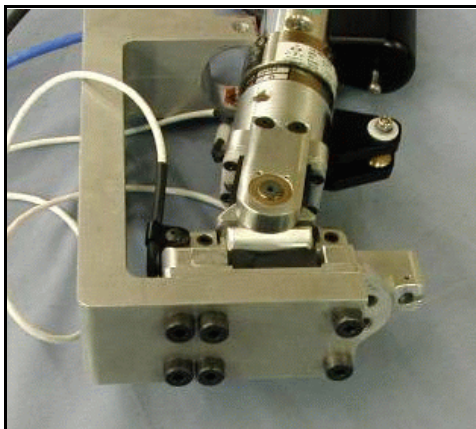

Figure 3.50 - Attachment of Cal. Fixture to Bottom of Ankle
5. Refer to drawing T2LXC000 for a complete drawing showing the proper attachment of the calibration fixture. Attach the bottom of the calibration fixture to the base of the ankle joint using the six 1/4-20 shoulder bolts provided with the fixture. The bolts pass through the calibration fixture from the bottom, through the I/E Soft Stop Assembly and into the ankle bearing blocks, as shown in **Figure 3.50**.